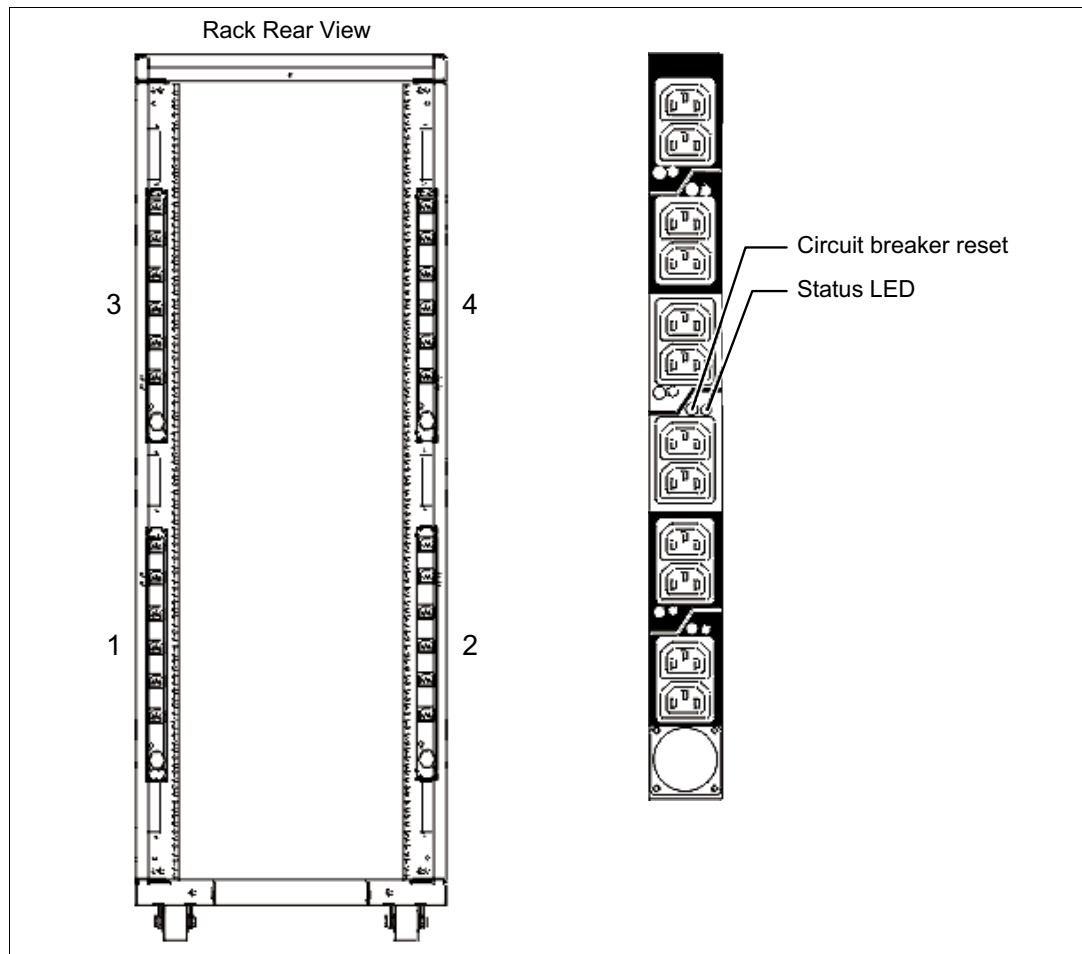

Figure 1-7 PDU placement and PDU view
- ▶ Up to four power distribution units (PDUs) can be mounted in the PDU bays (see Figure 1-7 on page 20), but others can fit inside the rack. For more information, see 1.8.7, “The AC power distribution unit and rack content” on page 20.
Four PDUs can be mounted vertically in the back of the T00 and T42 racks. Figure 1-7 shows the placement of the four vertically mounted PDUs. In the rear of the rack, two additional PDUs can be installed horizontally in the T00 rack and three in the T42 rack. The four vertical mounting locations are filled first in the T00 and T42 racks. Mounting PDUs horizontally consumes 1U per PDU and reduces the space that is available for other racked components. When mounting PDUs horizontally, the best approach is to use fillers in the EIA units that are occupied by these PDUs to facilitate proper air-flow and ventilation in the rack.